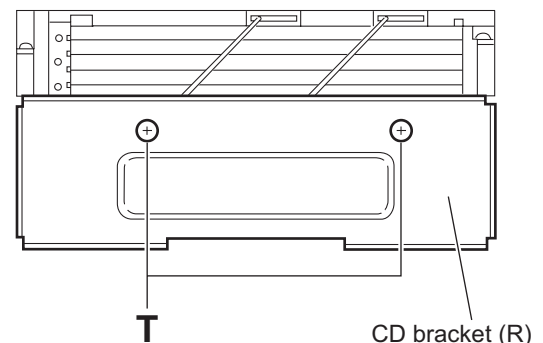

Fig.19
- (6) From the back side of the CD changer mechanism assembly, remove the two screws **T** attaching the CD bracket (R). (See Fig.19.)